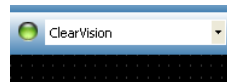

Figure 15: Successful ClearVision™ Sensor selection
- Once ClearVision is selected you will see a green LED (Figure 15). This verifies the sensor is now connected to the computer.